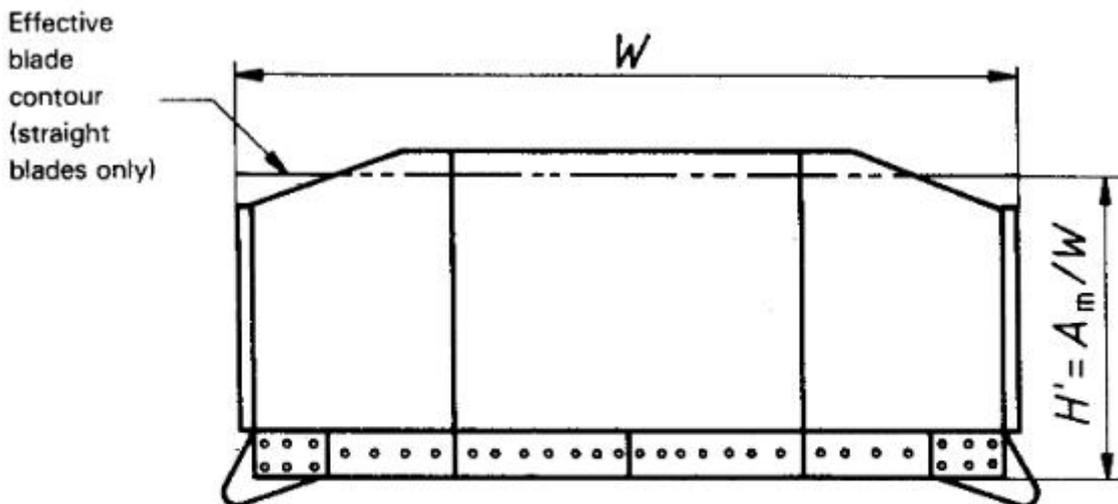

Figure 3 – Straight, semi-U-, U-blade dimensions
3.1.2 blade width, W : Distance, in metres, from outside to outside of the blade, exclusive of the end bits (see figure 3).
3.1.3 effective blade height, H' : Vertical height, in metres, that with W width, produces a projected area equal to A_m : i.e. $H' = A_m/W$ (see figure 3).
3.1.4 effective blade contour : Simplified representation of the blade face for calculating the blade capacity based on the vertical plane bounded by W and H' (see figure 3).
V_s : Volume of straight, angling, semi-U- and U-blades using the simplified representation of the blade face for calculating the blade capacity shown in figures 3 and 4.